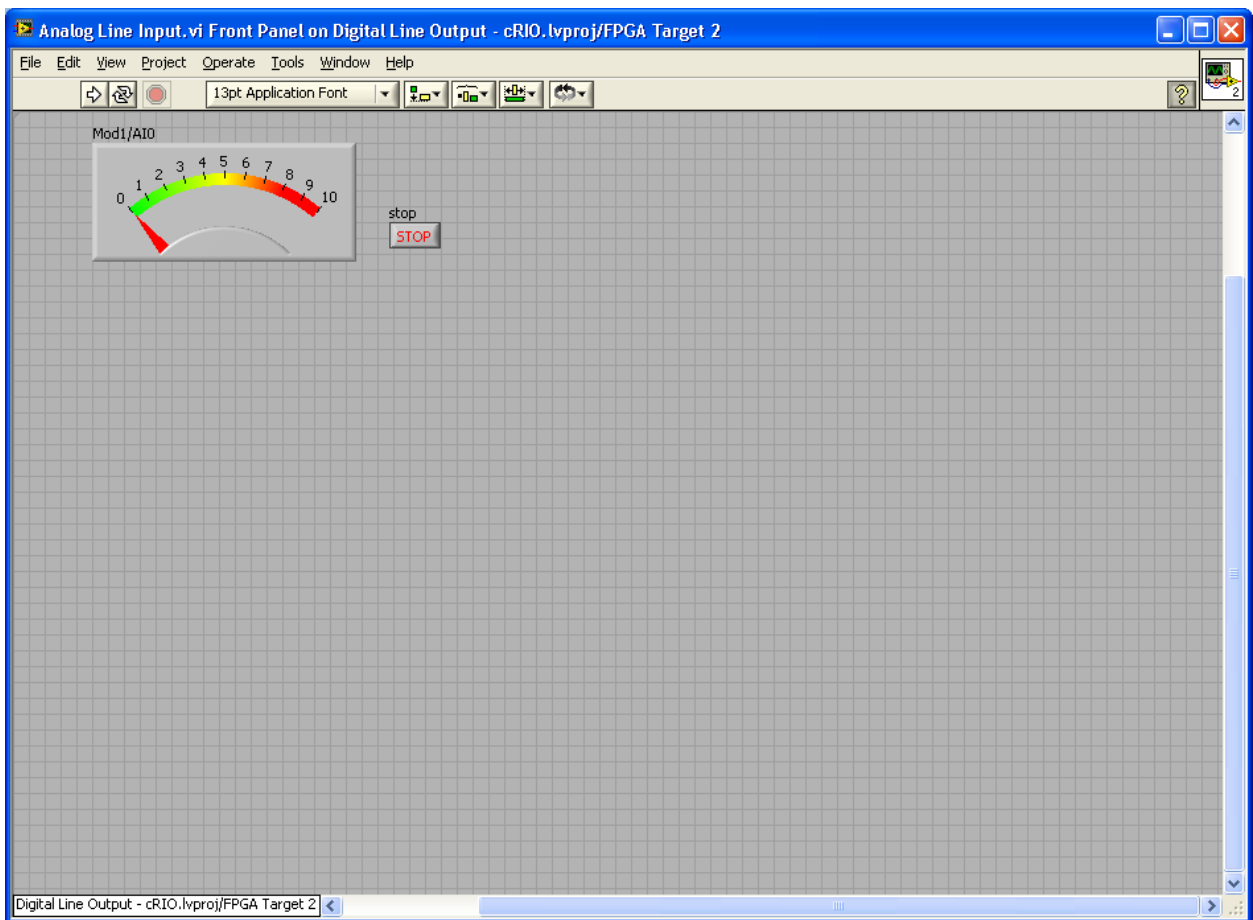

Figure 13 - Analog Line Input.vi
2. In the Project Explorer window Double click on Analog Line Input.vi. The front panel shown in Figure 13 should open.